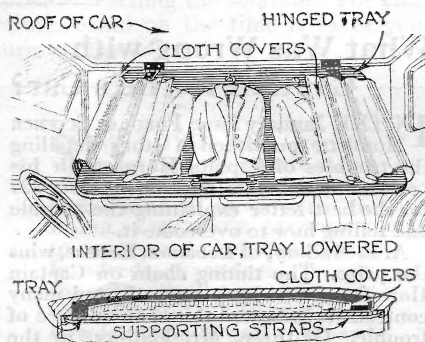

Fig. 7. Clothes tray for campers and tourists. It takes up little space under the top
**O**N LONG motor tours or camping trips it is difficult to keep clothing in presentable condition because of lack of packing space. The space underneath the top of a closed car can be used as shown in Fig. 7. A piece of three-ply veneer is cut so that it fits loosely against the inside of the top. One edge is at-
**TERRY W. BROWN**, of Massillon, O., wins the \$10 prize this month for his suggestion of an auto clothes compartment (Fig. 7). Each month **POPULAR SCIENCE MONTHLY** awards \$10 in addition to regular space rates to the reader sending in the best idea for motorists. Other published contributions will be paid for at usual rates.